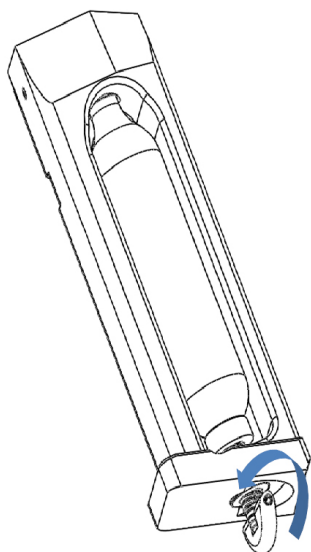

Fig. 4
2. Slowly loosen the wingnut, item #6 in section 1.2, until escaping gas is heard, see figure 4 above.